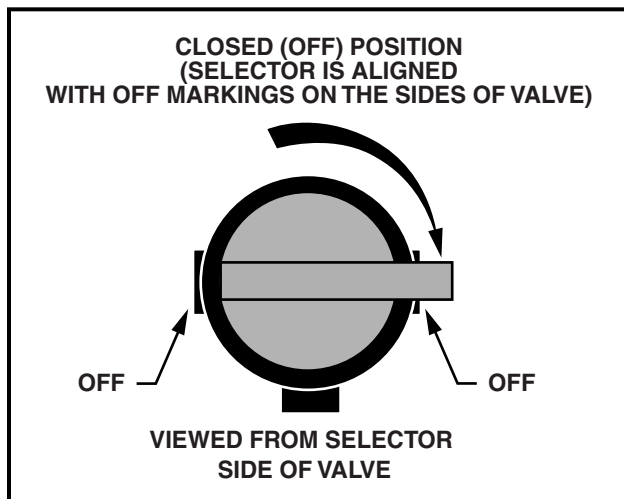

Figure 20 Fuel Shut-off Valve – Closed Position
2. Turn the key switch to the OFF position and place the Forward/Reverse handle or switch in the NEUTRAL position. Remove the key when the vehicle is not in use. For gasoline vehicles, also turn off the fuel shut-off valve (**Figure 20, Page 31**).
- Gasoline vehicles only: Turn the fuel shut-off valve to closed (OFF) position (Figure 20, Page 31).
- Gasoline vehicles only: Turn the fuel shut-off valve to the closed (OFF) position (Figure 20, Page 31).
- Turn the fuel shut-off valve to closed (OFF) position (Figure 20).
- 2.1. Place the Forward/Reverse handle in the NEUTRAL position and the neutral lockout cam in the MAINTENANCE position. Turn the fuel shut-off valve to the closed (OFF) position (**Figure 20, Page 31**) and run the engine until fuel remaining in the carburetor and fuel lines is depleted and the engine stalls. Return the neutral lockout cam to the OPERATE position.
- Turn fuel shut-off valve to the closed (OFF) position (Figure 20, Page 31).